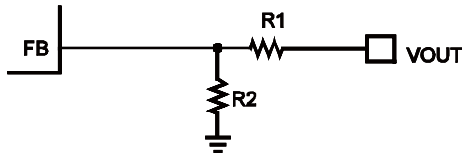

Figure 6: Feedback Network
The external resistor divider sets the output voltage (see Figure 6). The feedback resistor (R1) sets the feedback loop bandwidth with the internal compensation capacitor. R1 should be around 82.5kΩ. R2 can then be calculated with Equation (2):